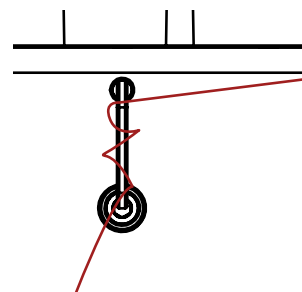

Figure 14
2. Continue to the three-hole thread guide B. Wrap all three holes from back to front, hand wheel side to needle side. (Figure 14).